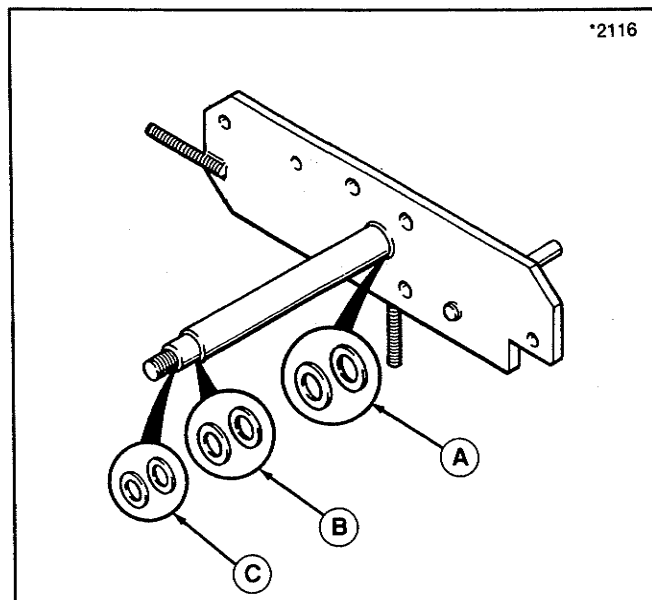

Figure 32.
2. Install washers (B & C, figure 32) on spindle and tighten castle nut by hand only. Place a straightedge across large wheel sprocket and outer jackshaft sprocket and check alignment. Add or remove washers (A) between axle plate and hub assembly as required for alignment. Reinstall hub assembly.